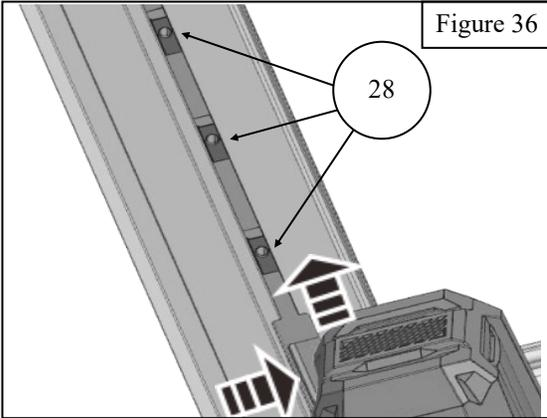

Figure 36
21. Starting on the driver's side, insert three M6 T-channel nuts (**Item 28**) into the channel on the bottom of each side rail and position them above the mounting points for the mount brackets (**Items 11-13**) and install them at the corresponding bed mounting points. See **Figures 36, 37, and 40**.